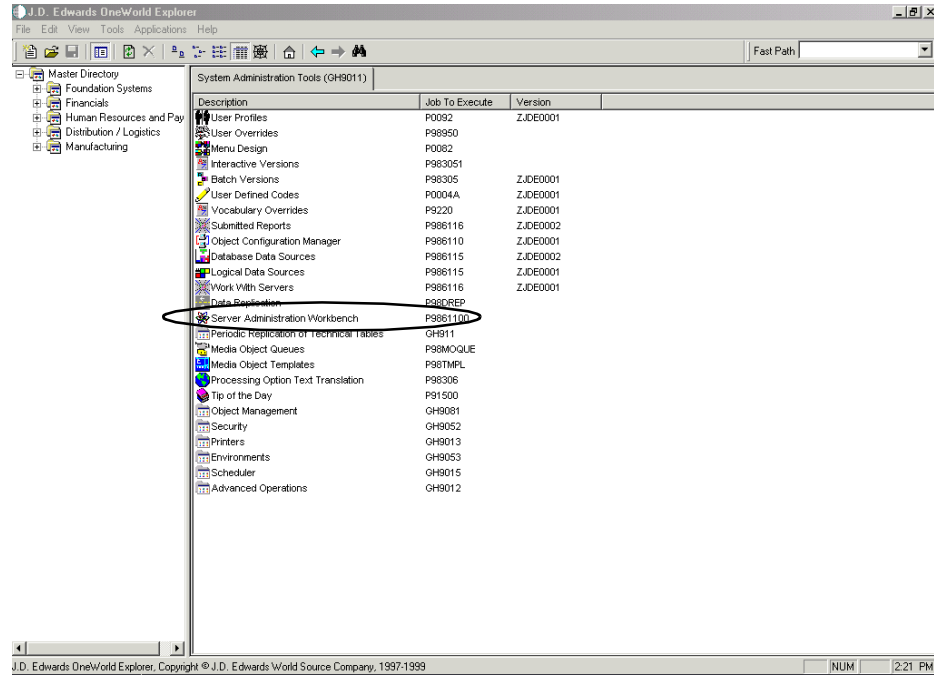

Figure 328. System Administration Tools
1. From the OneWorld Explorer, access Fast Path, and type GH9011 to reach the System Administration Tools menu (Figure 328).